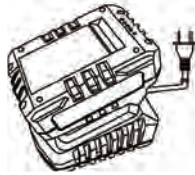

Fig.6-1
- Charge the battery pack only with the correct charger(Fig.6-1).